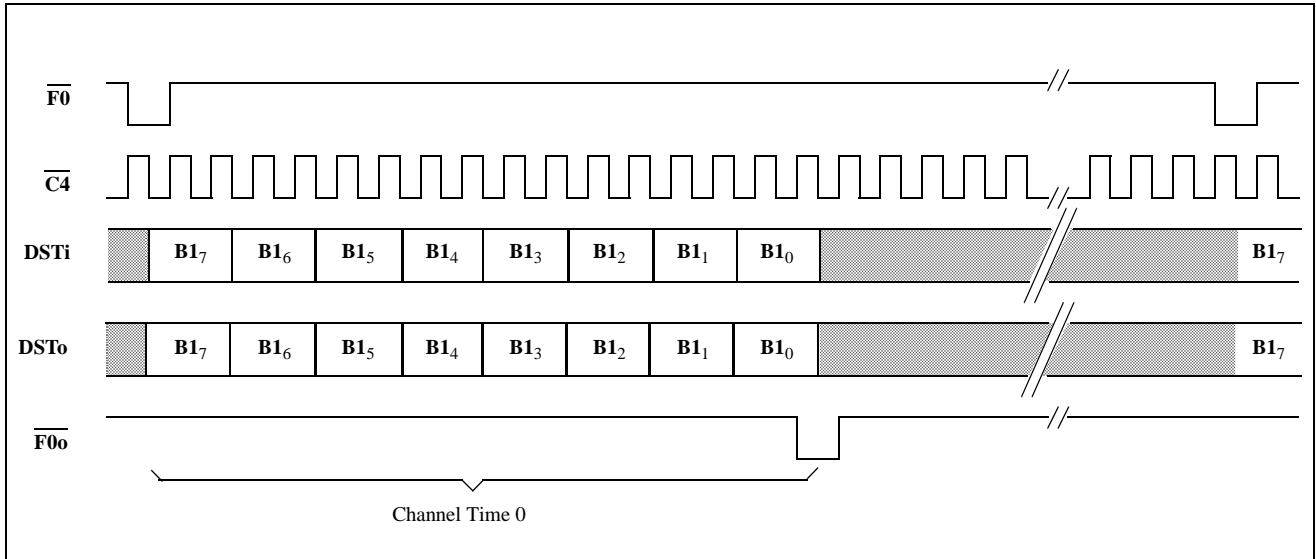
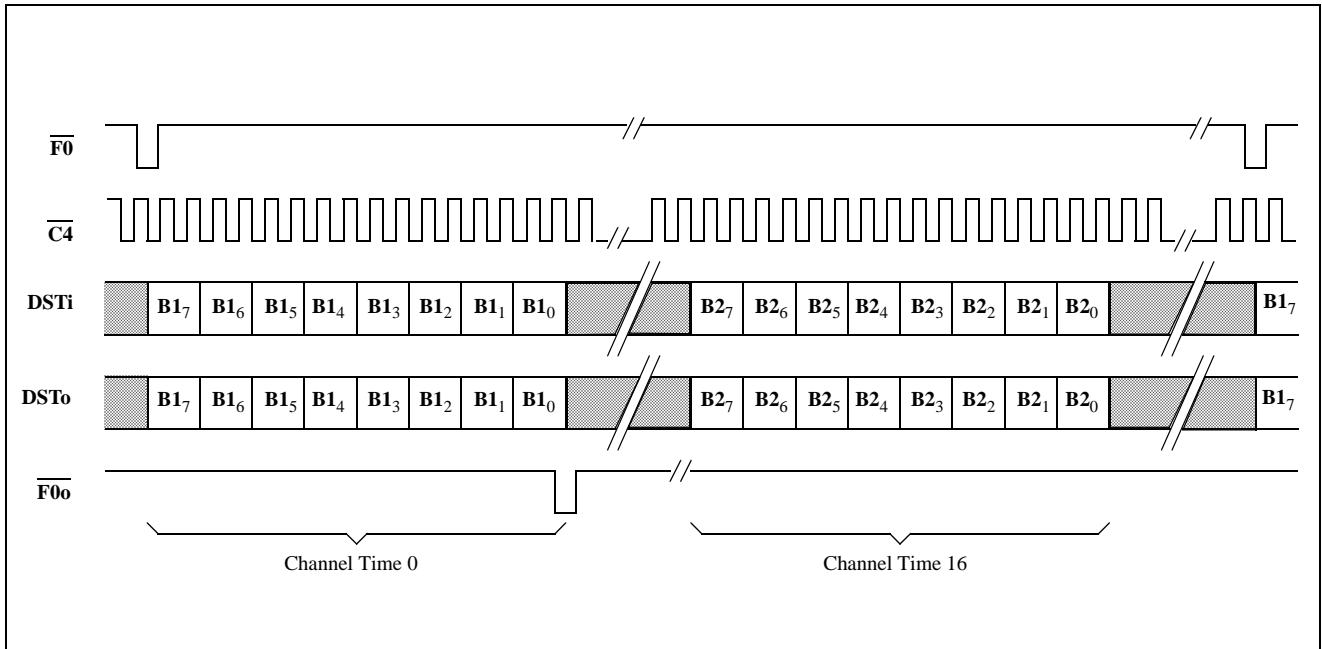
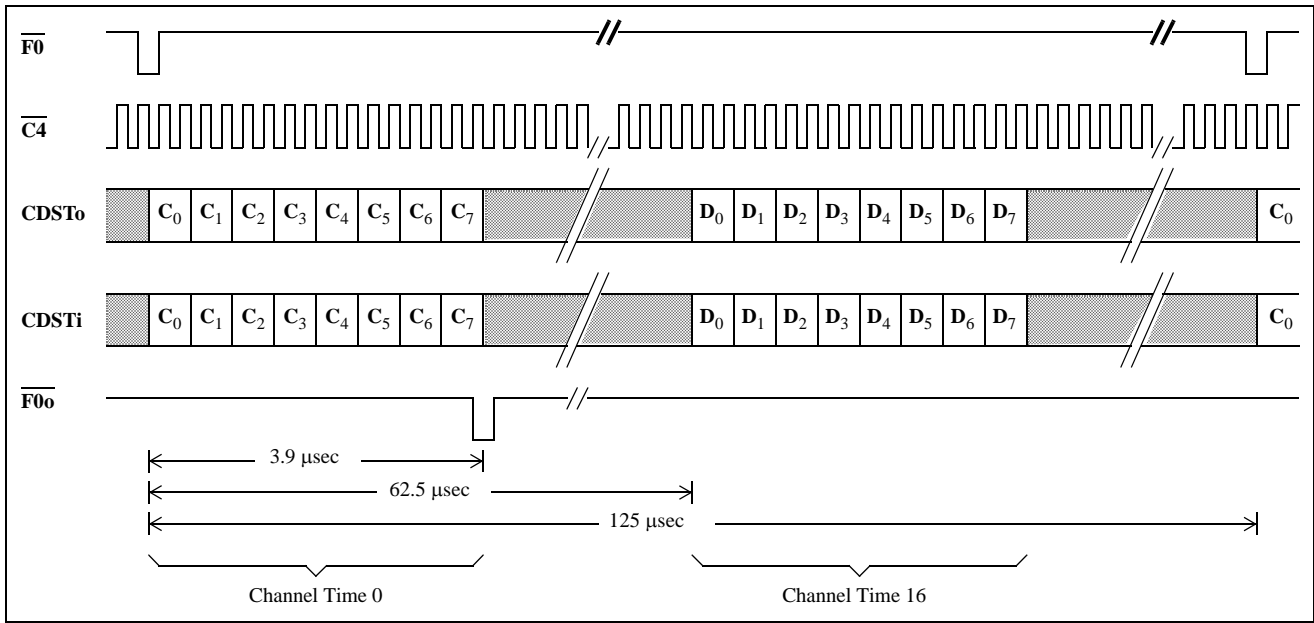

Figure 3 - DV Port - 80 kbit/s (Modes 2, 3, 6)
Figure 4 - DV Port - 160 kbit/s (Modes 2, 3, 6)
Figure 7 - CD Port (Modes 2,6)
In DIGITAL NETWORK (DN) mode there are three channels transferred by the DV and CD ports. They are the B, C and D channels. The B1 and B2 channels each have a bandwidth of 64 kbit/s and are used for carrying PCM encoded voice or data. These channels are always transmitted and received through the DV port (Figures 3, 4, 5, 6). The C-channel, having a bandwidth of 64 kbit/s, provides a means for the system to control the DNIC and for the DNIC to pass status information back to the system. The C-channel has a Housekeeping (HK) bit which is the only bit of the C-channel transmitted and received on the line. The 2B+D channel bits and the HK bit are double-buffered. The D-channel can be transmitted or received on the line with either an 8, 16 or 64 kbit/s bandwidth depending on the DNIC's mode of operation. Both the HK bit and the D-channel can be used for end-to-end signalling or low speed data transfer. In DUAL port mode the C and D channels are accessed via the CD port (Figure 7) while in SINGL port mode they are transferred through the DV port (Figures 5, 6) along with the B1 and B2 channels.
The DV port transfers data or PCM encoded voice to and from the line according to the particular mode selected by the mode select pins. The modes affecting the configuration of the DV port are MOD or DN and DUAL or SINGL. In DN mode the DV port operates as an ST-BUS at 2.048 Mbit/s with 32, 8 bit channels per frame as shown in Figure 9. In this mode the DV port channel configuration depends upon whether DUAL or SINGL port is selected. When DUAL port mode is used, the C and D channels are passed through the CD port and the B1 and B2 channels are passed through the DV port. At 80 kbit/s only one channel of the available 32 at the DV port is utilized, this being channel 0 which carries the B1-channel. This is shown in Figure 3. At 160 kbit/s, two channels are used, these being 0 and 16 carrying the B1 and B2 channels, respectively. This is shown in Figure 4. When SINGL port mode is used, channels B1, B2, C and D are all passed via the DV port and the CD port is disabled. See CD port description for an explanation of the C and D channels.
The CD port is composed of the C and D-Channels. The C-channel is used for transferring control and status information between the DNIC and the system. The D-channel is used for sending and receiving signalling information and lower speed data between the line and the system. In DN/DUAL mode the DNIC receives a C-channel on CDSTi while transmitting a C-channel on CDSTo. Fifteen channel times later (halfway through the frame) a D-channel is received on CDSTi while a D-channel is transmitted on CDSTo. This is shown in Figure 7. The order of the C and D bytes in DUAL port mode can be reversed by the mode select pins. See Table 1 for a listing of the byte orientations.